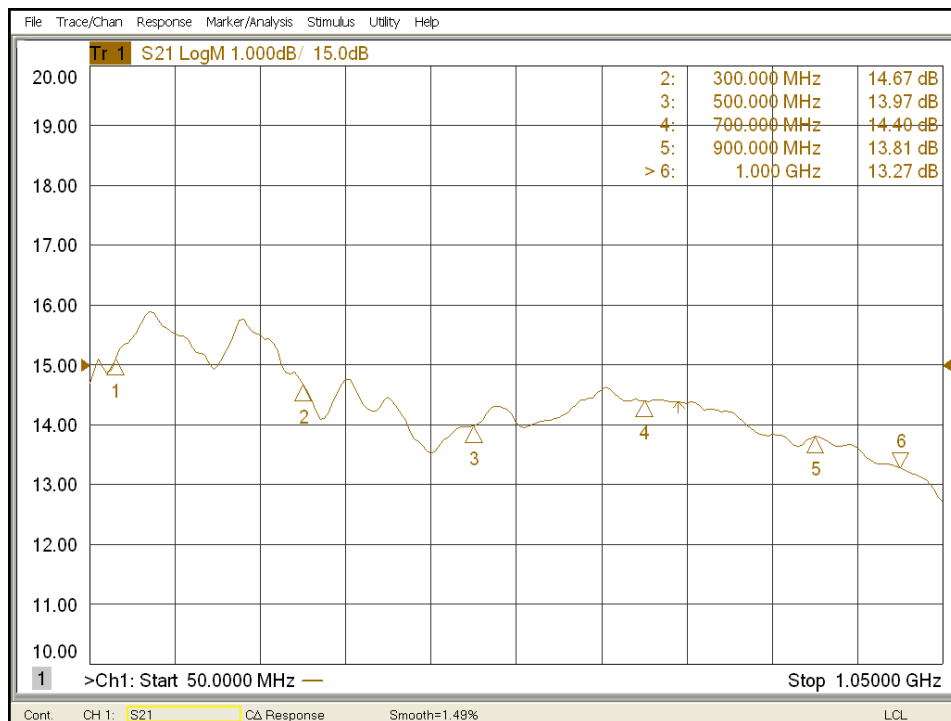

Figure 4-3. Input of Two-Way Splitter to RF Output
- Phase matching must be maintained from the input of the A3 Two-Way Splitter to the inputs of the A22 12-Way Combiner Figure 4-3; if coaxial cables are removed, they must be reinstalled in the same locations from which they were removed. Replacement coaxial cable assemblies must be the same lengths as the original ones.